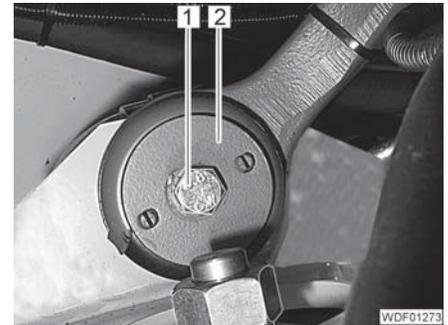

Fig. 22 Engine mount
- Undo 1 screw (Fig. 22,1) on each engine mount (Fig. 22,2).